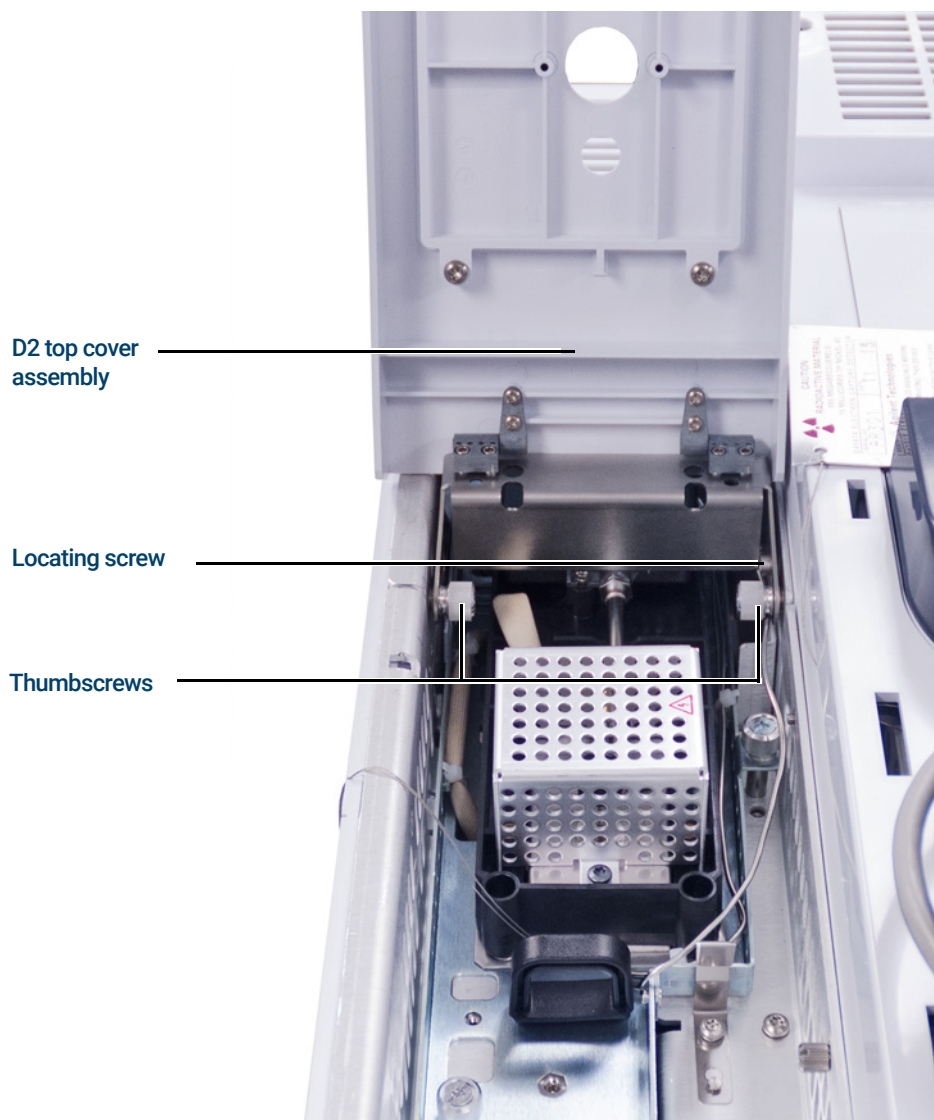

Figure 9. D2 top cover assembly
- c** Lift the front of the D2 top cover assembly. See Figure 9.